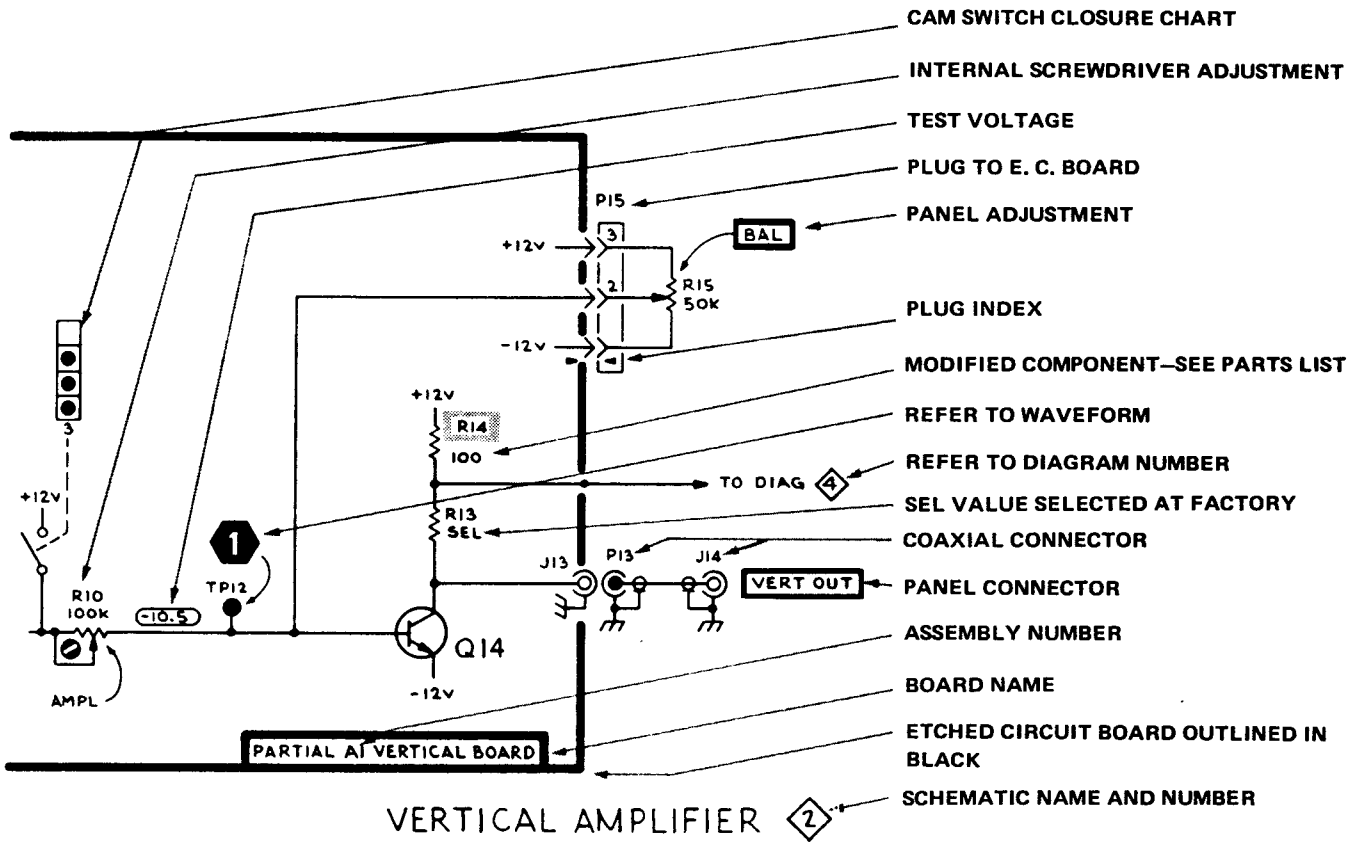

Figure 6-1. Schematic symbols.
(5) An explanation of the symbols used on the diagrams is shown in Figure 6-1.